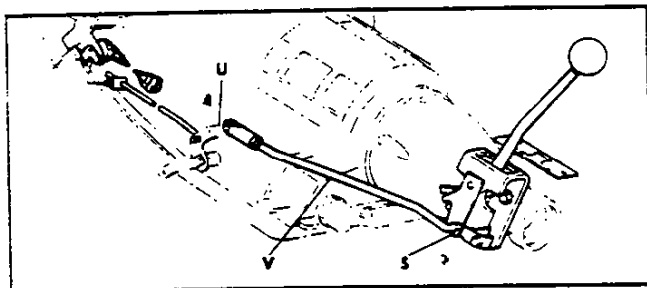

Fig. 2PG—Shift Linkage Adjustment
2. Disconnect control rod (V) (fig. 2PG) at control shaft lever (S) by removing clip retainer from control rod. Loosen clevis nut at bell crank end of control rod.
3. Set control rod bell crank (U) in park position.
4. Set control shift lever (S) in park position.
The neutral safety switch adjustment is made by varying the length of the bell crank (U) to switch control rod. A swivel is provided at one end of this rod to permit the adjustment (fig. 2PG).